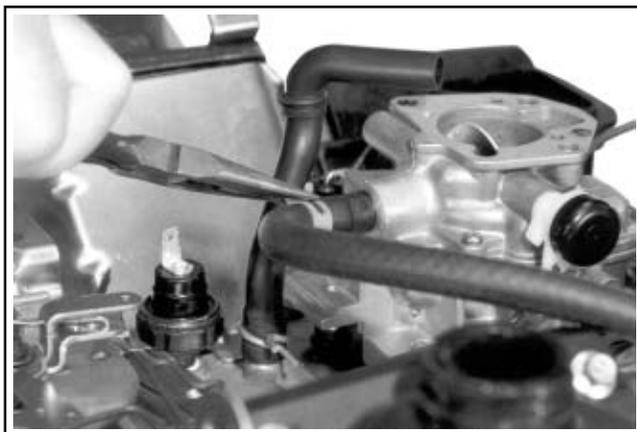

Figure 9-12. Disconnecting Fuel Inlet Line at Carburetor.
1. Disconnect the fuel lines at the carburetor and at the in-line fuel filter. See Figure 9-12.